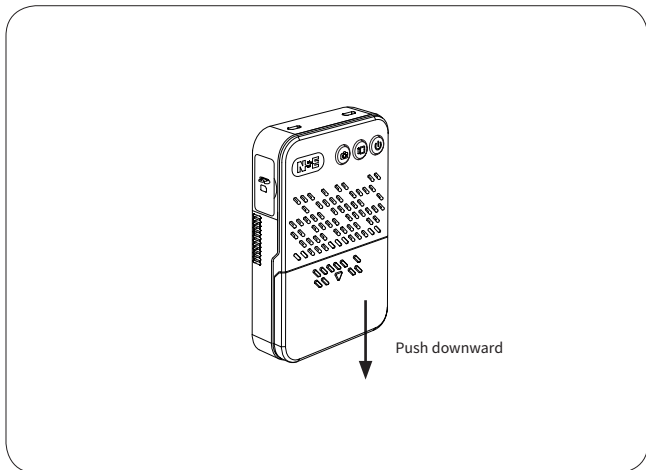

Fig.3 Removing the battery cover
- (1) Hold the camera system's main recording unit, and push the battery cover with your thumb along the direction as shown in Fig. 3 to remove it.
- (2) Install both the chargeable lithium batteries to the battery compartment in the correct orientation.
- (3) Push the battery cover upward and make sure it clicks firmly.